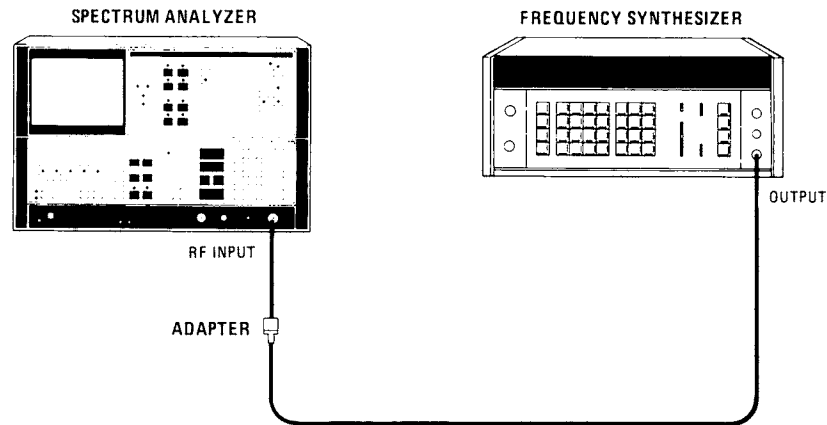

Figure 4-13. IF Gain Uncertainty Test Setup (Alternate Procedure)
5. Connect OUTPUT of synthesizer to RF INPUT of analyzer (see Figure 4-13).